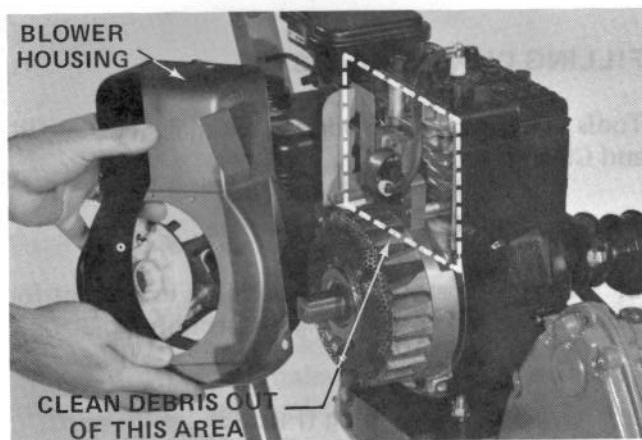

Figure 28
2. Remove the three 7/16 inch screws that hold engine blower housing to engine (Fig. 28).